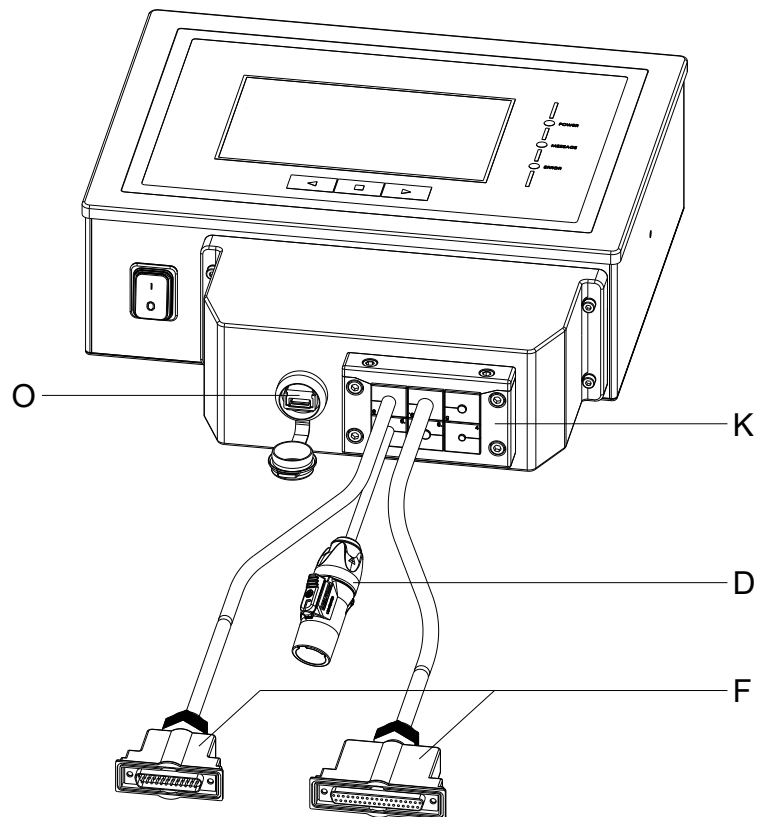

Figure 19
2. Guide the connection cable print mechanics/control unit (F) with the non-sealed side from the outside through the protective cover (G).
3. Connect the connection cable print mechanics/control unit (F) to the control unit (A).
4. If necessary, connect a connection cable for external inputs/outputs to the appropriate socket of the control unit (A).
5. If necessary, connect an Ethernet or USB data cable to the control unit (A).
6. Insert the USB data cable (E) on the inside of the protective cover (E) into the USB socket.
7. Guide the power cable (D) and if necessary, the data and I/O cable through the opening of the protective cover (G).
8. Guide the protective cover (G) in the direction of the control unit (A) until the USB data cable (E) can be connected to the control unit (A).
9. Screw the protective cover (G) to the control unit (A) with the four screws (I) and the sealing rings (H).
10. Remove the upper part of the cable entry strip (K) after removing the both screws (J).
11. Remove the cable grommets (M) that fit to the respective connection cables from the cable entry strip (K) and enclose the cables two to three centimeters in front of the protective cover (G).
12. Place the cable entry strip (K) in front of the protective cover and insert the cable grommets (M) with connection cables into the slots. The connection cables print mechanics/control unit (F) must be placed in the upper left corner and the power cable (D) should be placed on the bottom left (see Figure 19).